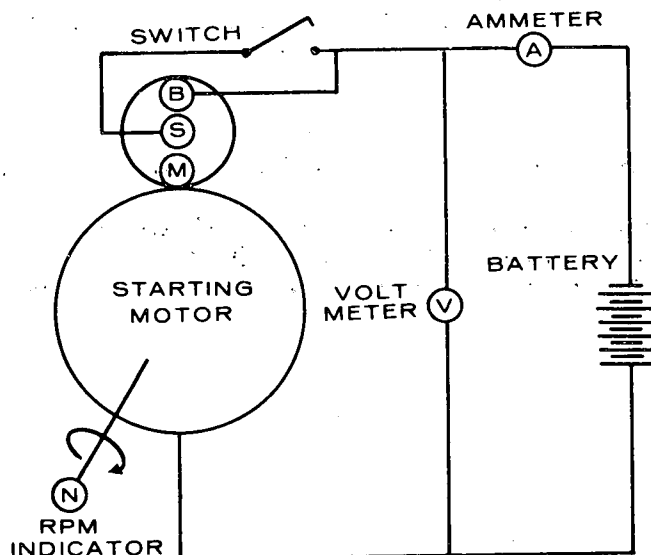

FIGURE 48. STARTING MOTOR WIRING
1. For no load test, the starting motor is wired as shown in Figure 48 and revolved. The meter readings for this test should be: